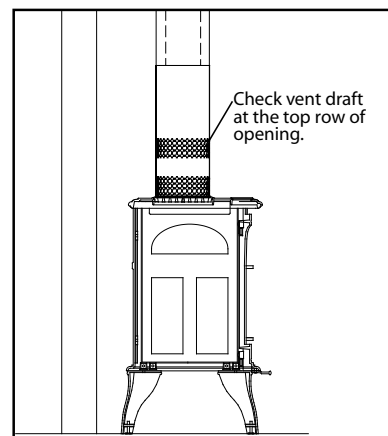

Figure 26: Draft test place.
4. After a minimum of 10 minutes operation, test the chimney draft with a smoke match at the top row of the pattern to confirm that there is adequate draft or 'pull' at the openings around the body of the Drafhood Adaptor, as shown in Figure 26.